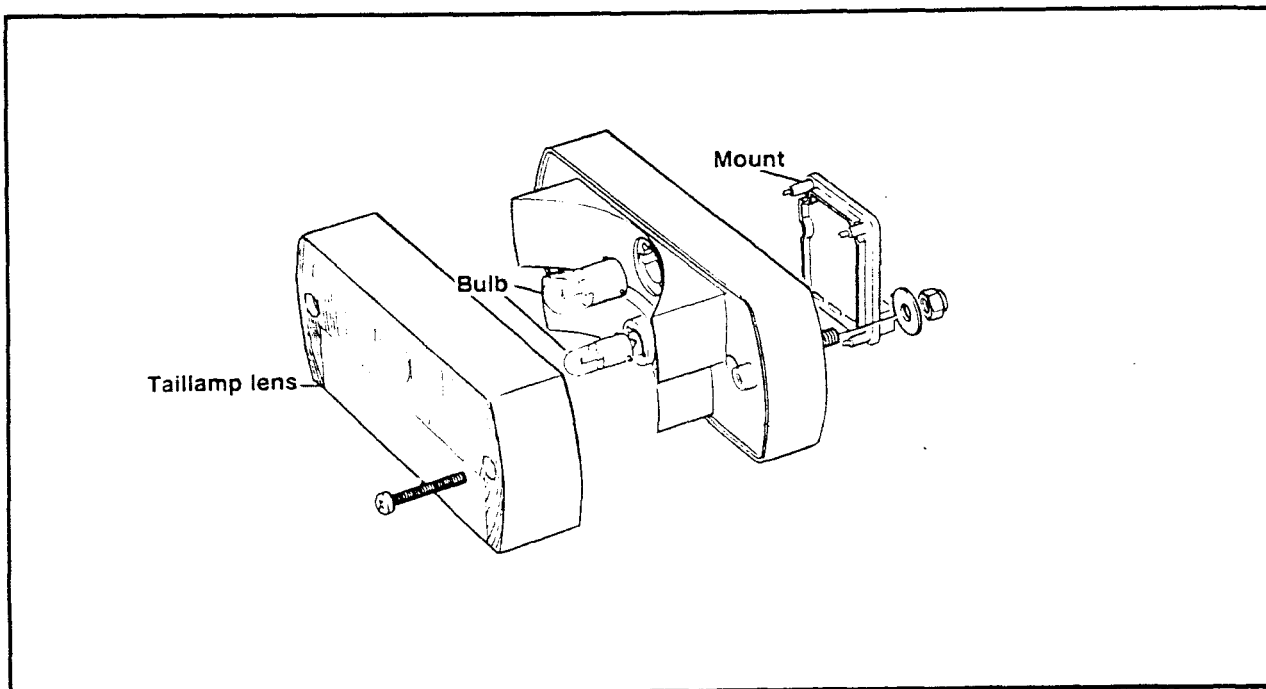

Figure 4-28. Rear Lamp Replacement
3. See figure 4-28. If the rear light unit terminals are dirty or corroded, clean with fine emery paper. To do this, carefully pry off the snap fitting terminal cap.